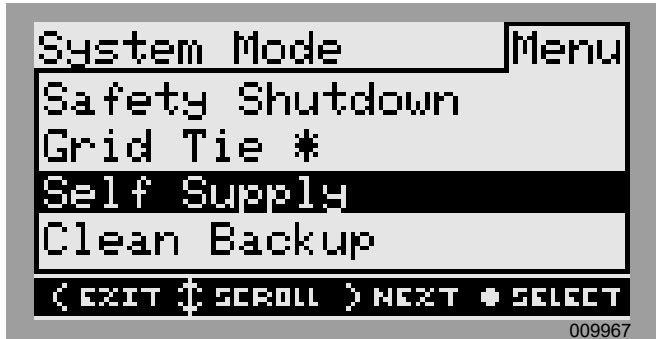

Figure 6-4. Selecting Operational Modes (3 of 4)
- See **Figure 6-4**. Use the up and down arrows to highlight the desired mode and press the center button to select.